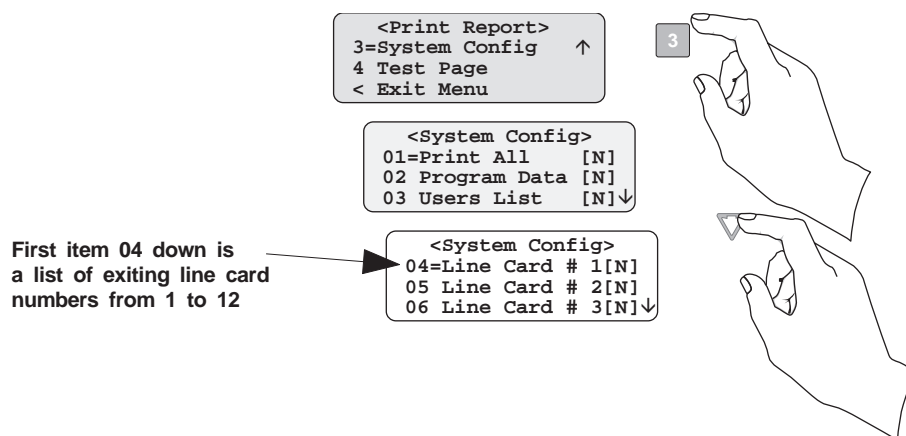

Figure 4-15 System Configuration Print Items
5. Press **3** to view System Configuration options (Figure 4-15).